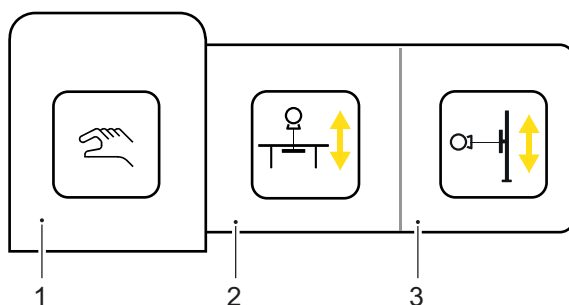

Fig. 3-10 Tracking activation
1. Press *Automatic Tracking Activation button* in the display and select *Table*, #2, see **Fig. 3-10**.
1. Press *Automatic Tracking Activation button* and select *Wallstand*, #3, see **Fig. 3-10**.